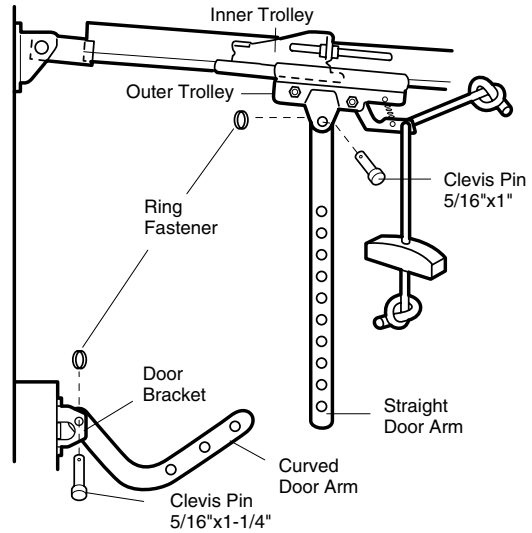

Figure 1
- Make sure garage door is fully closed. Pull the emergency release handle to disconnect the outer trolley from the inner trolley. Slide the outer trolley back (away from the door) about 20 cm as shown in Figures 1, 2 and 3.
- **Figure 1:**